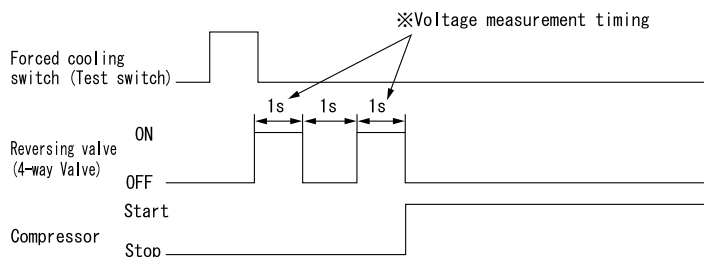

Fig. 2-1
- Just before the compressor starts operation, the current is applied twice at the interval of 1 sec as shown in Fig.2-1.
- During forced cooling operation, just after the forced cooling switch turns on, the current is applied twice at the interval of 1 sec as shown in Fig.2-1.